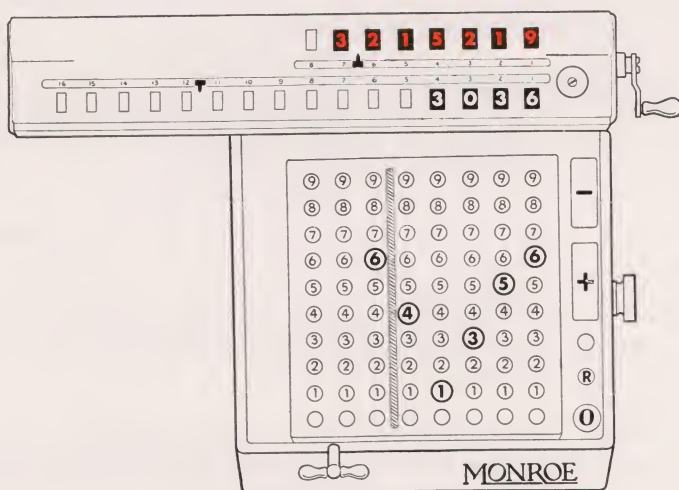

Figure 12
Step 5—Proceed with the division in the regular way. The final result will appear as in Figure 12.
Step 6—The example shown in Figure 12 illustrates the advantage of setting the upper dials decimal marker at one place more than the number of places required for the quotient. In the first upper dial or the sixth place is a 9. Therefore the quotient should be read as 3.21522 and not 3.21521, which would have been the incomplete quotient if the upper dials decimal had been set at 5 places instead of at 6.